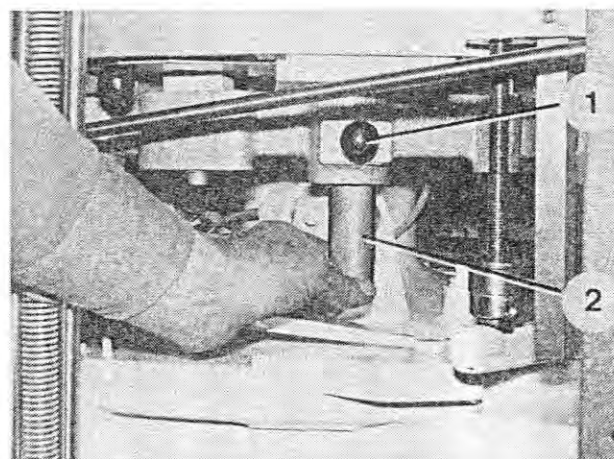

Fig. 154
18. Pull on the index pin (Figure 154/1) and raise the cell bottom on the guide rod (Figure 154/2) until the index pin is engaged in its upper position.